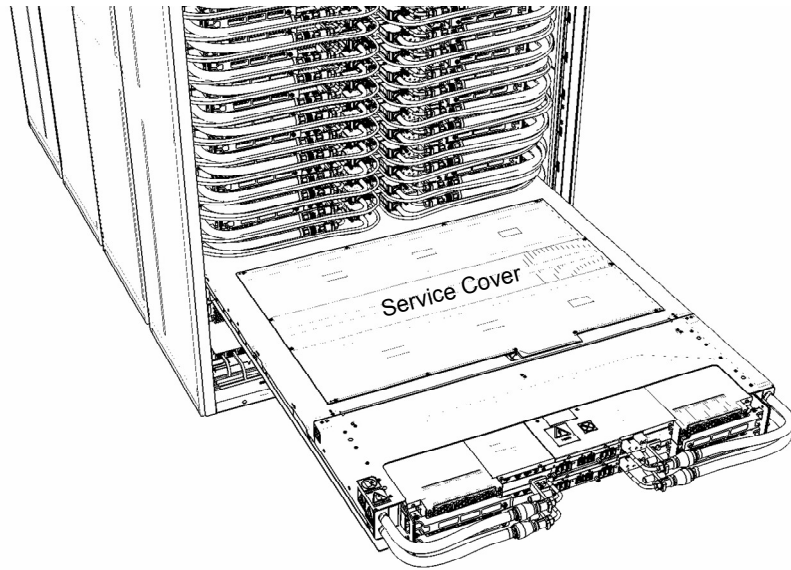

Figure 22 CEC Drawer in service position
STEP 33 Continue sliding out the drawer until it has reached the service position as shown in Figure 22.
- **Do not pull the CEC drawer further out than shown in Figure 22**
- **Note, the CEC Drawer has a two stop latch designed into it.** One on the left side of the CEC Drawer and one on the right side. The latches are designed to stop the drawer when it reaches the position shown in Figure 22.